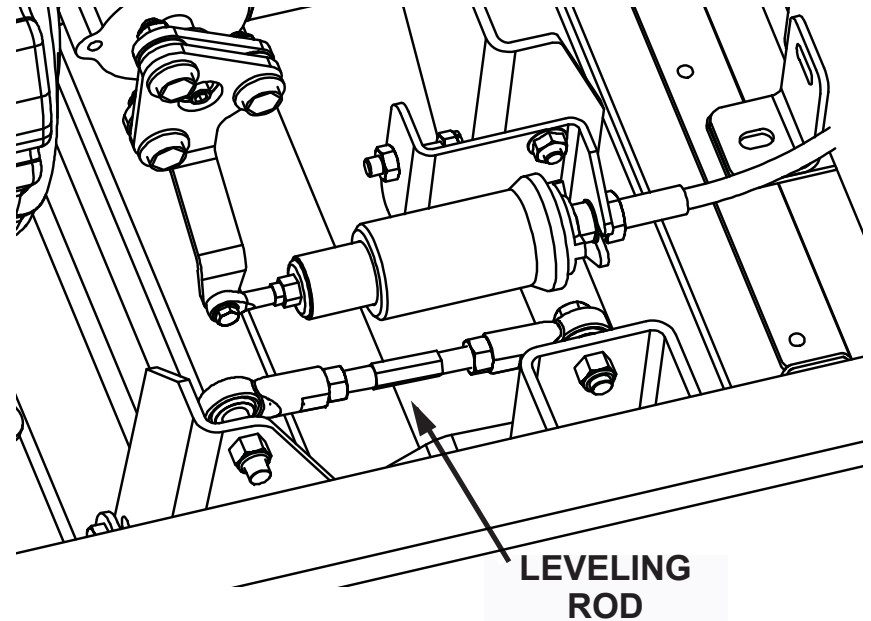

Fig. 4: Leveling Rod location
2. Lengthen or shorten the leveling rods located on each side of the machine above the scrub deck. Lengthening the rods will increase the front scrub brush pattern width. (See Fig. 4)